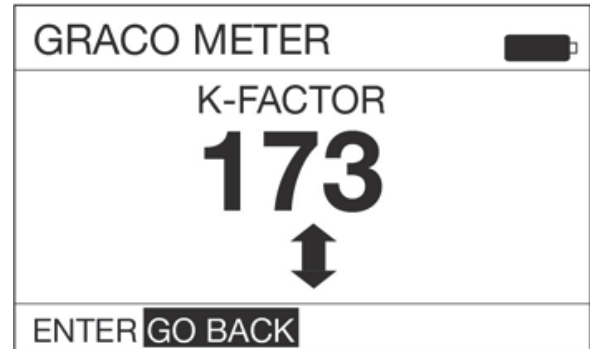

FIG. 28
8. The k-factor adjustment screen shown in FIG. 28 displays.